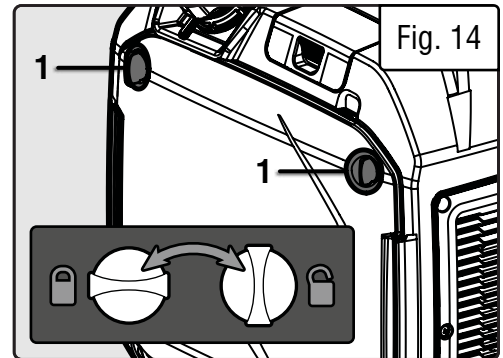
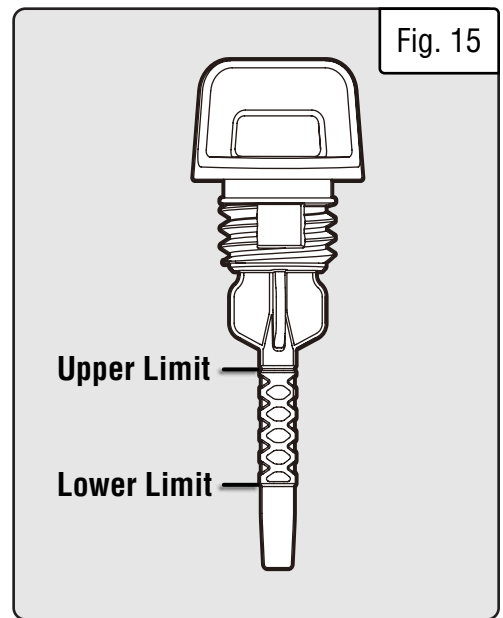

Fig. 14
Fig. 15
2. Open the side panel (to the right of the control panel) by twisting the side panel access knobs (Fig. 14 - 1). Remove and wipe the oil dipstick (Fig. 15) with a clean rag. Insert the dipstick into the oil fill opening without screwing it in.